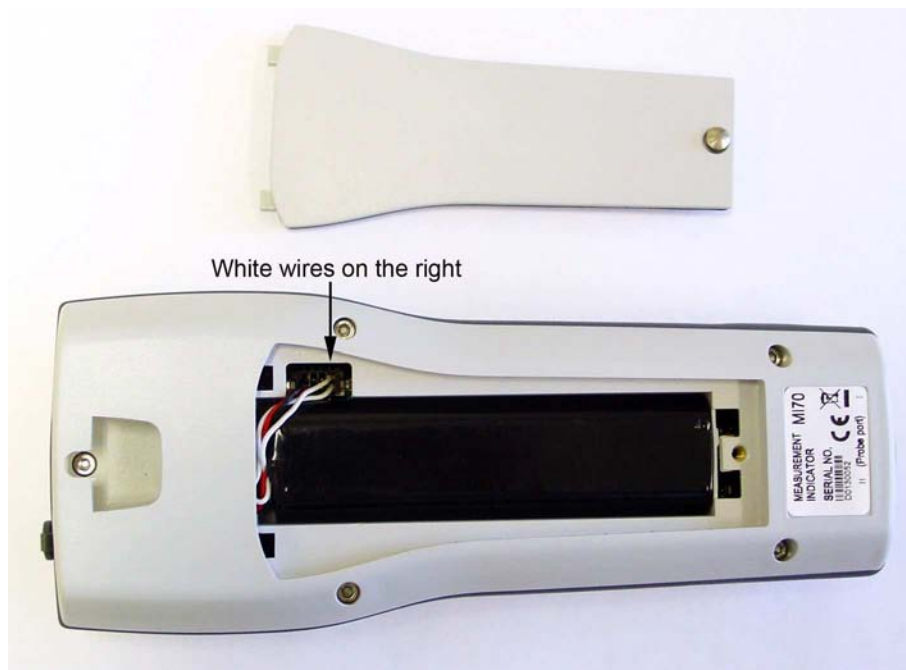

Figure 18 Changing the MI70 Battery Pack
4. Connect the black connector of the new battery pack. Ensure that the white wires are on the right edge of the connector as shown in Figure 18 on page 42.